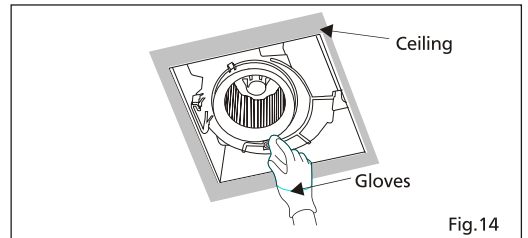

Fig.14
5. Using a cloth dampened with kitchen detergent, remove any dirt from fan body. Wipe dry with clean cloth. (Fig.14)